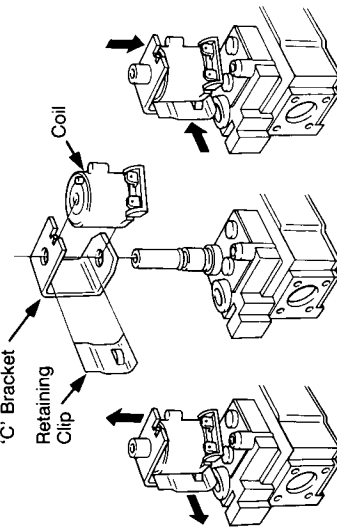

Fig. 36
**8.12.18 Solenoid (fig 36)**
- 8.12.21 Pull off the 'C' bracket and coil assembly. see fig 36